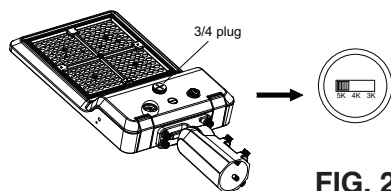

FIG. 2
1. Remove the 3/4 NPT plug and adjust the switch to the desired CCT setting (see **Fig. 2**).